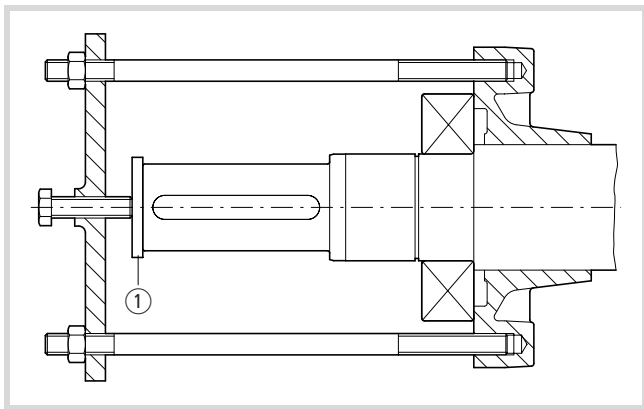

Figure 11: Removing the internal bearing cover and the roller bearing
- ▶ Remove the internal DE (1.07) or NDE (2.05) bearing cover together with the roller bearing from the shaft (→ Fig. 11).